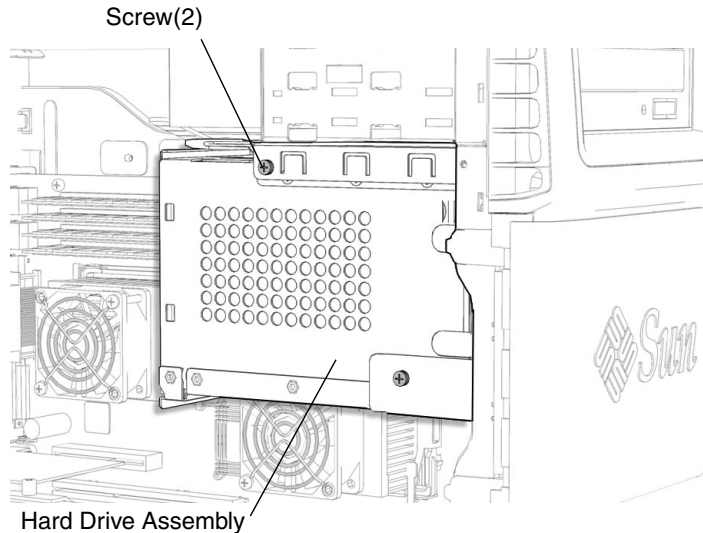

FIGURE 10-14 Removing the Screws for the Hard Drive Assembly
1. Remove the two screws (FIGURE 10-14).